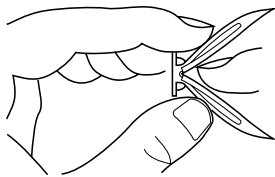

Figure 28 - Folding Anchor
2. Fold floor anchor as shown in Figure 28.